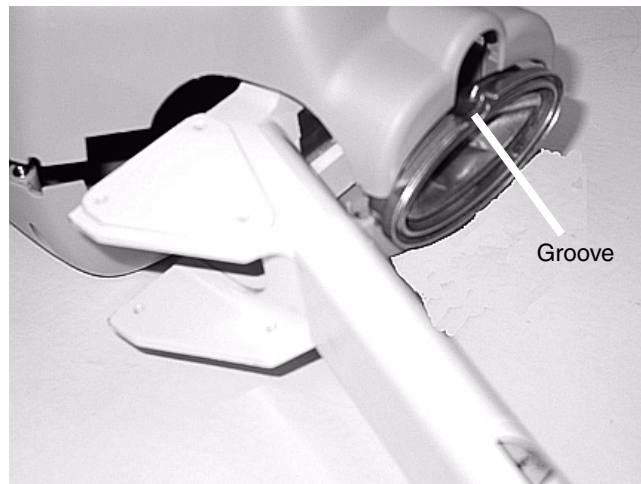

Figure 27: Feed horn groove
1. Facing the antenna reflector, place the shroud over the feed assembly so that the broad side is on the right. Align the side screw holes. The sides of the oval hole fit either behind, or in the feed horn groove, which is shown in Figure 27.